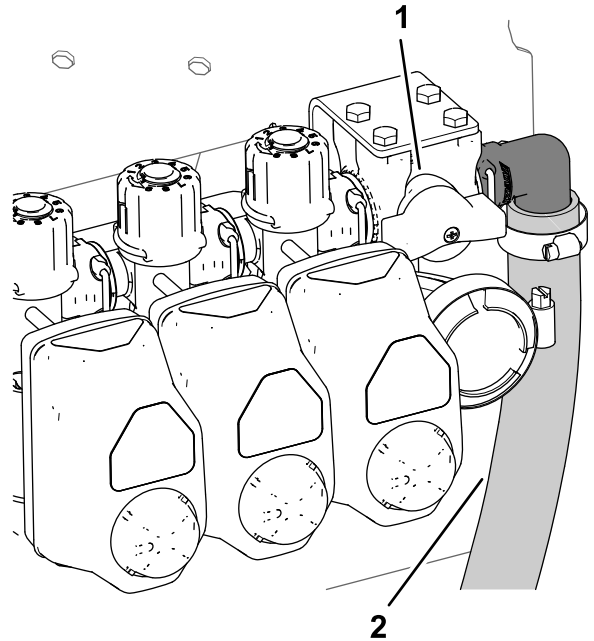
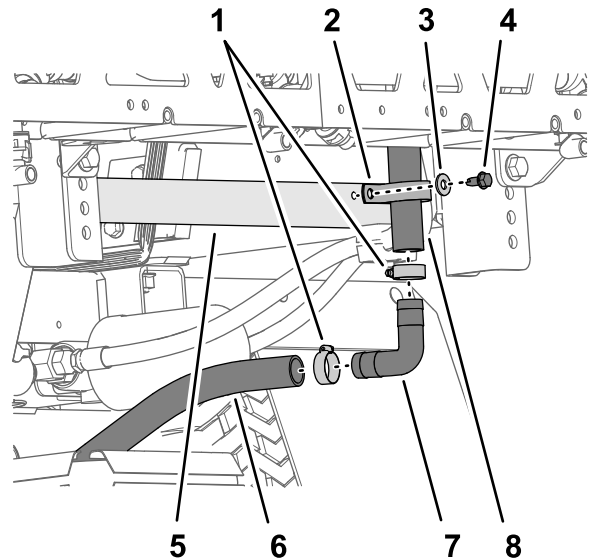

Figure 40
Figure 41
- 1. At the lower end of the upper bypass hose, remove the flange-head bolt (5/16 x 3/4 inch), washer (5/16 inch), and R-clamp that secures the upper bypass hose to the rear-saddle plate of the machine (Figure 40 and Figure 41).
- Remove the 2 hose clamps that secure the upper bypass hose and the lower bypass hose to the 90° barbed fitting (Figure 41).
- Remove the 90° barbed fitting from the hoses (Figure 41).